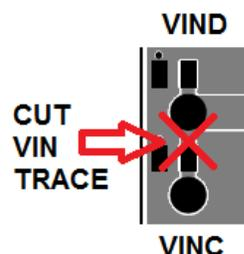

Figure 4. Separate V_{IN} Pairs by Cutting Traces at Terminals
3. The DC2182A is set up with the following power stage switch nodes and V_{IN} nodes connected together; A & B, C & D, E & F, and G & H. Any configuration using 1A or 3A regulators will require one or more of the V_{IN} and switch nodes to be separated. Refer to Table 1 to determine which power stages are connected together and separated. Cut the required V_{IN} nodes by cutting the V_{IN} traces on the bottom of the board near the V_{IN} terminals as shown in Figure 4.